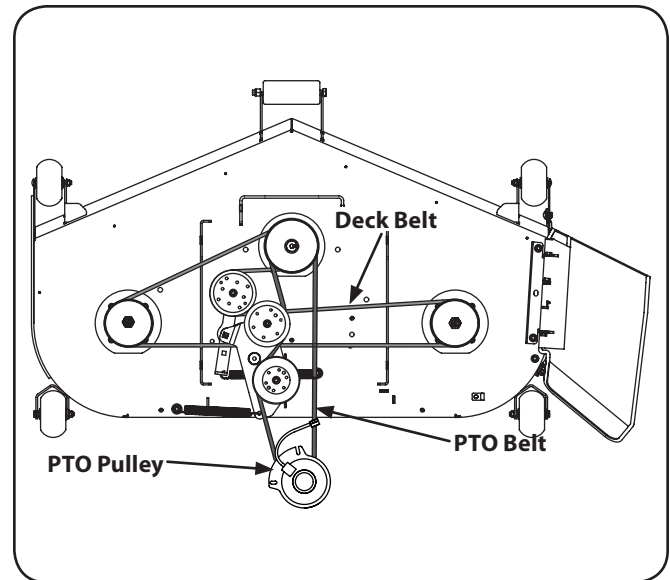

Figure 7-8
6. Route the PTO belt as shown in Figure 7-8. After routing the belt around the PTO pulley, use a ½" drive in the idler pulley bracket and turn towards the back of the tractor to finish routing the belt around the idler pulley.
- Install the new deck belt around the spindle pulleys as shown in Figure 7-8 and reinstall the belt covers.